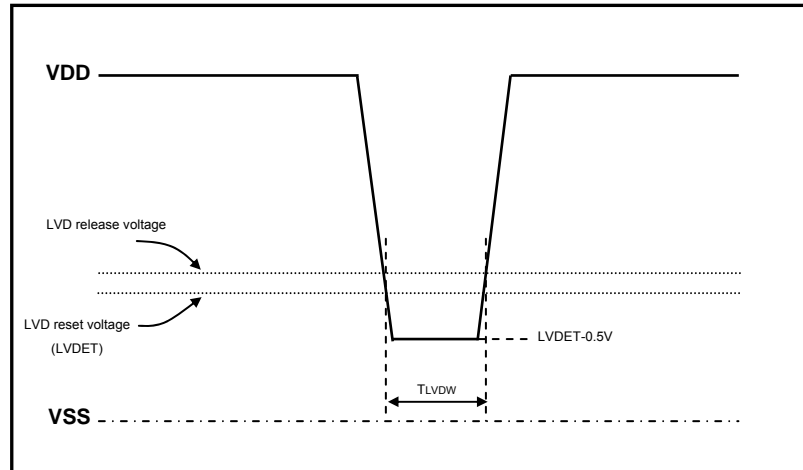
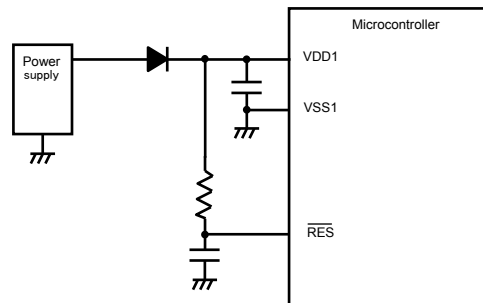

Figure 4.7.4 Example of Momentary Power Loss or Voltage Fluctuation Waveform
Figure 4.7.5 Example of Momentary Power Loss/Voltage Fluctuation Countermeasures
- The response time measured from the time the LVD detects a power voltage drop at the option-selected level until it generates a reset signal is defined as the minimum low-voltage detection width TLVDW shown in Figure 4.7.4 (see “SANYO Semiconductors Data Sheet”). If momentary power loss or power voltage fluctuations shorter than this minimum low-voltage detection width are anticipated, be sure to take the preventive measures shown in Figure 4.7.5 or other necessary measures.